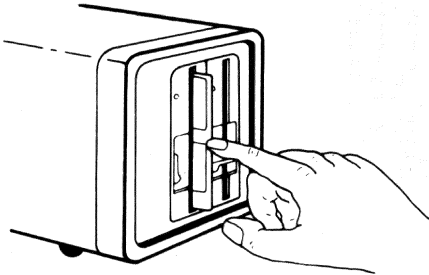

Figure 3.9 Push the Disc Right Home
- Push the disc right into the drive until it clicks into place, as shown in figure 3.9.